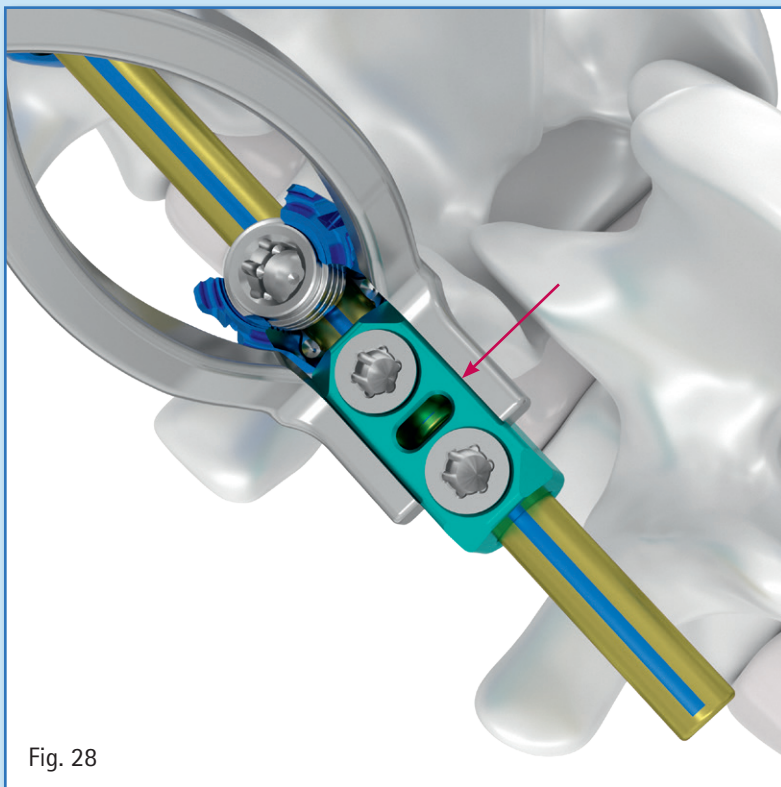

Fig. 28
3. If the Rod-to-Rod Connector fits properly and is fully seated on both rods, final tightening can be accomplished. (Fig. 28)